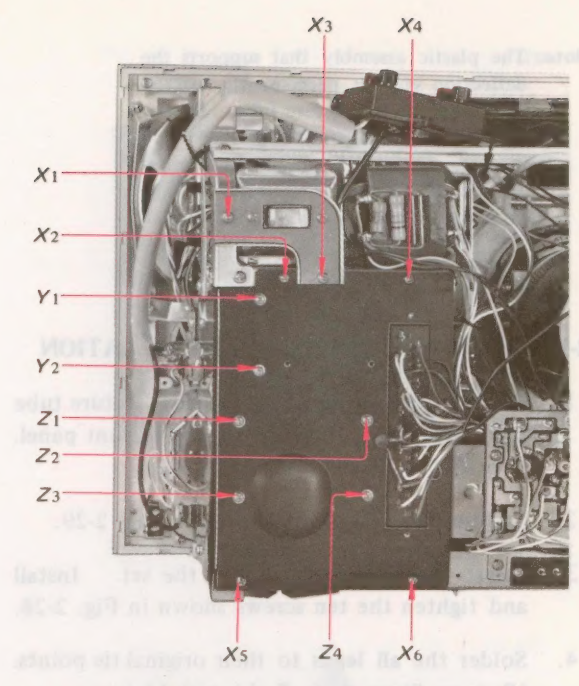

Fig. 2-36. Screws for removal of the rear cover, horizontal output transformer and flyback transformer
- 9. Remove the six screws labeled X1-6 in Fig. 2-36.
- 11. Remove the two screws labeled Y1-2 in Fig. 2-36.
- 13. Remove the four screws labeled Z1-4 in Fig. 2-36.